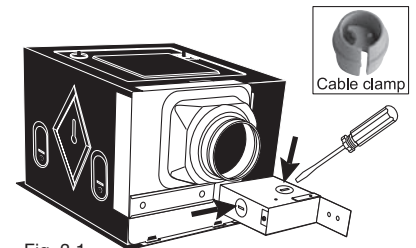

Fig. 3.1
- 1- Remove wiring compartment cover and pry out one of the knock-outs. The cable clamp (included) must be inserted through the knock-out hole. (Fig. 3.1)